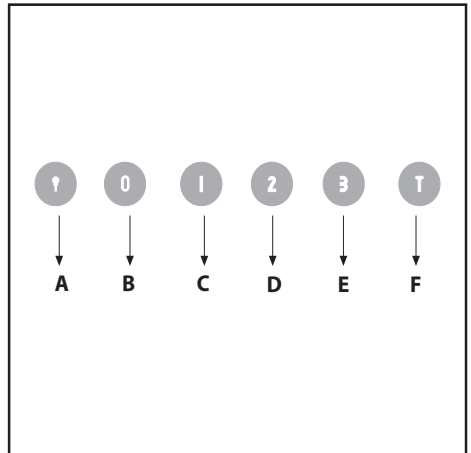

Fig.5
• **Commands:** (fig.5) **luminous** the key symbols are explained below: